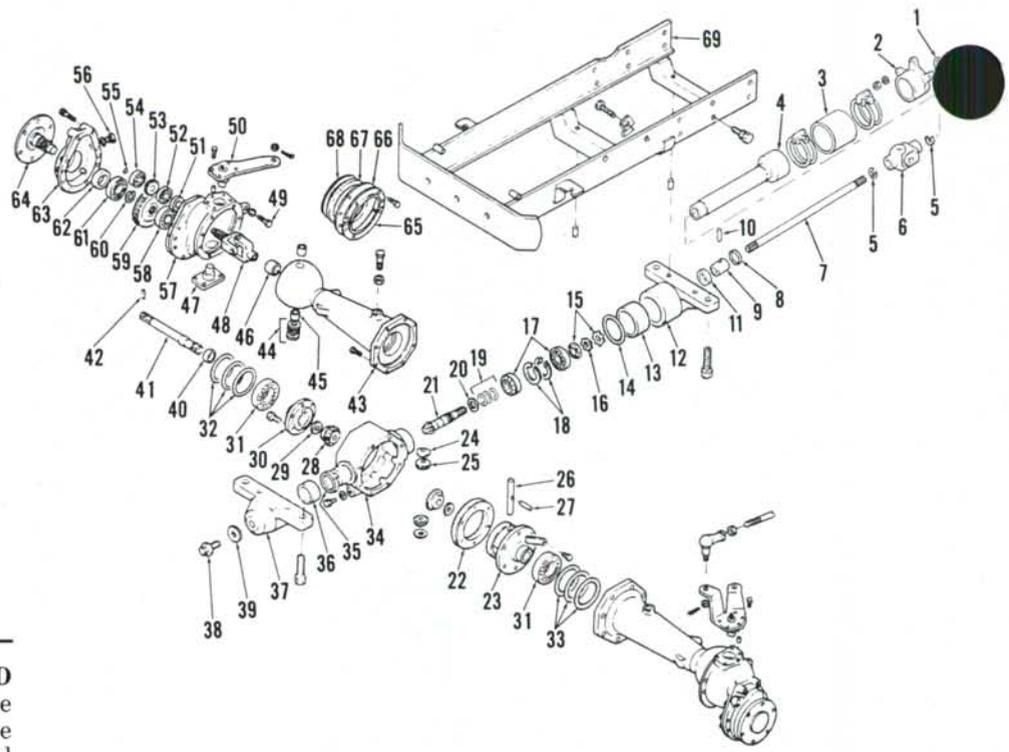
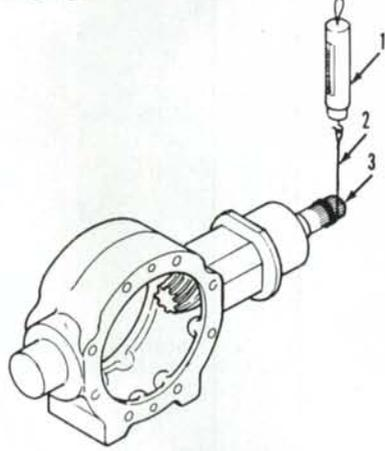

Fig. 7—Exploded view of front wheel drive axle used on 1100 and 1200 models.
Fig. 10—Wrap a cord (2) around pinion shaft (3) and use a spring scale (1) to check pinion rolling torque. Refer to text for adjustment.
Inspect axle pivot bushings (13 and 36-Figs. 7, 8 and 9) for wear or damage. Renew bushings if clearance
Stop bolts (49—Figs. 7, 8 and 9) should be adjusted to provide correct turning radius and to prevent drag link interference. Stop bolt setting is measured from head of bolt to surface of mounting pad. Correct length is 24 mm (15/16
4. OUTER DRIVE ASSEMBLY. To remove the outer drive, first remove wheel and tire. Detach drag link and tie rod from axle steering arm. Remove plates and seal parts (65 through 68—Figs. 7, 8 and 9). Support the outer drive unit, then unbolt and remove king pins (47 and 50). Withdraw assembly from axle housing (43).
On early 1100 and 1200 models, universal joint (48—Fig. 7) is integral with shaft for outer pinion gear (53). To remove universal joint first separate outer cover (63) from housing (57) and remove snap ring (55) from end of shaft. Tap universal joint and shaft out of bearings (52 and 54) and pinion gear. Remove wheel axle (64), gear (59), bearings and seals from outer cover and housing.
The differential and ring gear (22 through 30—Figs. 7, 8 and 9) can be removed after unbolting and separating axle shaft housings from center housing (34). Bevel pinion (21) can be removed after removing nuts (15) from shaft.
Install drive pinion (21) in center housing using shims (19) that were originally installed for initial assembly. To adjust pinion bearing preload, wrap a cord around pinion shaft as shown in Fig. 10. Use a spring scale to measure pull required to rotate the shaft. Tighten inner nut (15—Fig. 7, 8 or 9) until spring scale reading is 5-6 kg (11-13 pounds) for 1100 and 1200 models; 5½-7 kg (12-13 pounds) for 1300 and 1500 models; 11-15 kg (24¼-33 pounds) for 1700 and 1900 models. Install washer (16) and tighten outer nut (15), then recheck rolling torque.
6. DIFFERENTIAL CARRIER BEARING PRELOAD. To adjust carrier bearings, first attach right axle housing to center housing (34—Fig. 7, 8 or 9). Place housing in vertical position with center housing up. Assemble sufficient thickness of shims (32) in housing bore to make sure that ring gear will not contact drive pinion, then install differential assembly in center housing. Be sure that carrier bearing is properly seated in axle housing bore.